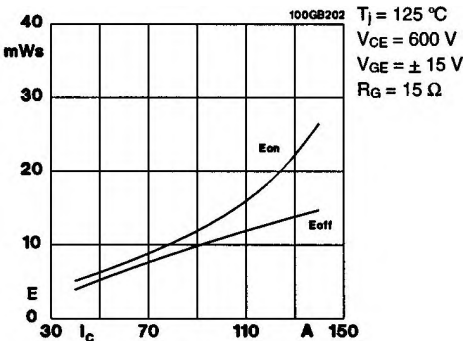

Fig. 2 Turn-on /-off energy = $f (I_C)$
- ⁵⁾ See fig. 2 + 3; $R_{Goff} = 15\ \Omega$